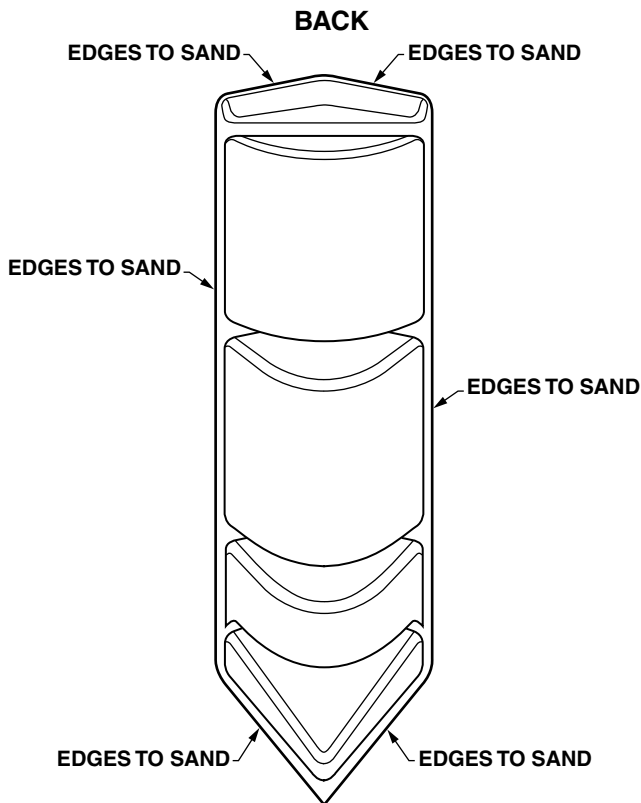

FIGURE 1
- The caddy may require additional trimming or sanding along the outer rear edges of the caddy. See **FIGURE 1**.